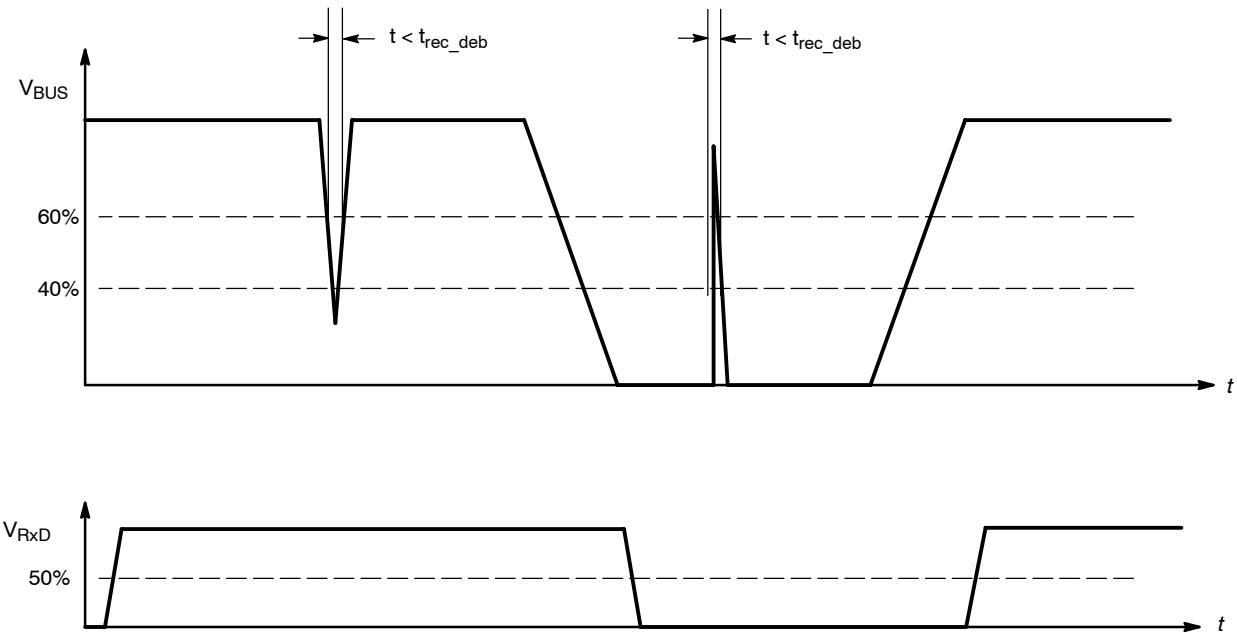
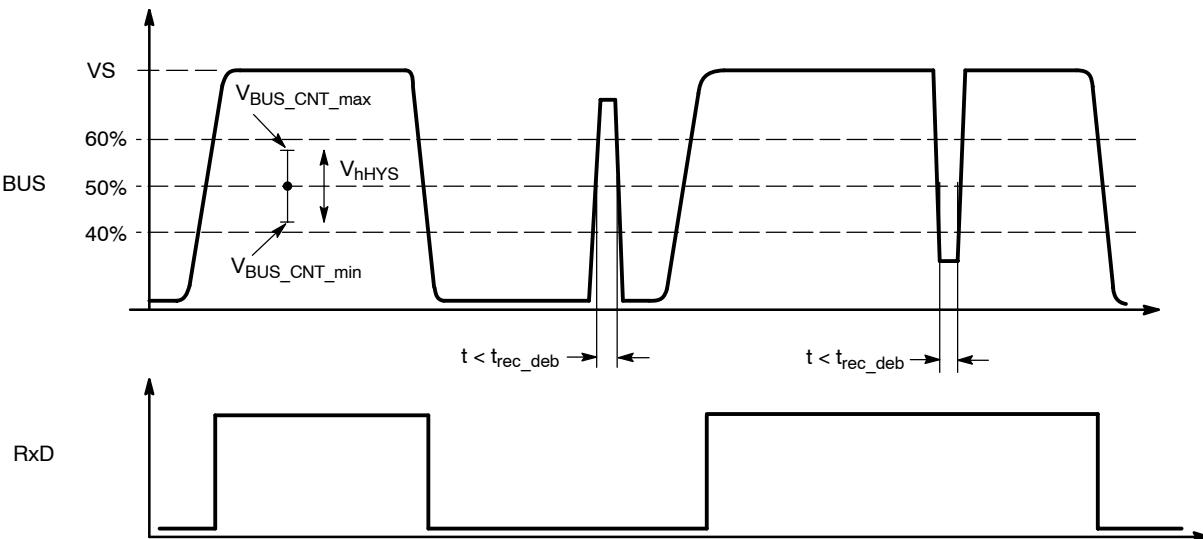

Figure 3. Receiver Debouncing Filter
Figure 6. Receive Impulse Diagram
- 14. See Figure 3 – Receiver Debouncing.
The signal on the BUS pin will be transferred continuously to the RxD pin. Short spikes on the bus signal are filtered with internal circuitry (Figure 3 and Figure 6).